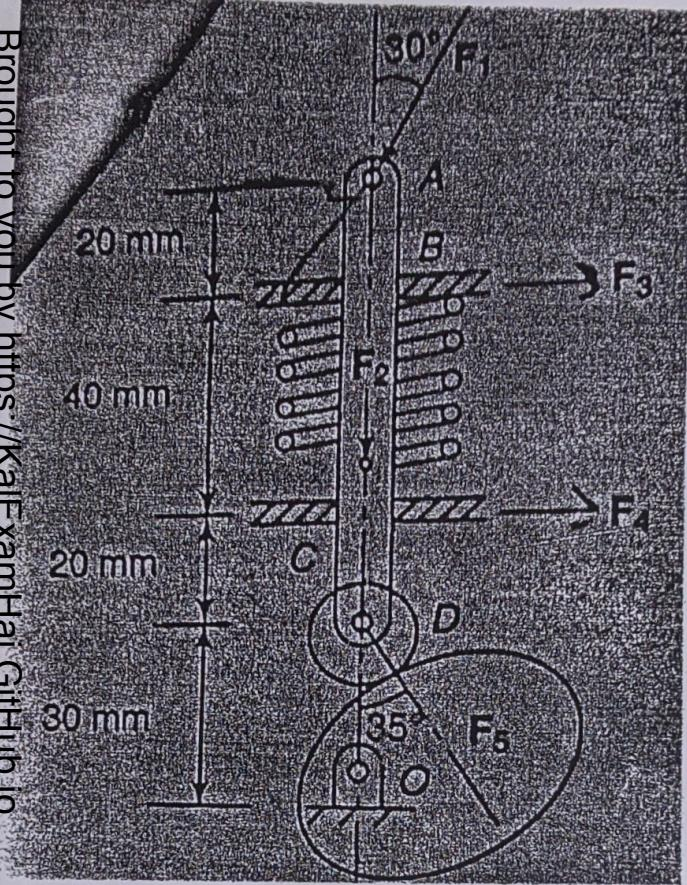

Figure 1
- Figure 1 shows a cam with a reciprocating roller follower system. Various forces acting on the follower are indicated in the figure. At the instant, an external force F_1 of 40 N, a spring force F_2 of 15 N and cam force F_5 of unknown magnitude act on it along the lines of action as shown. F_3 and F_4 are the bearing reactions. Determine the magnitudes of the forces F_3 , F_4 and F_5 . Assume no friction. (6 marks)